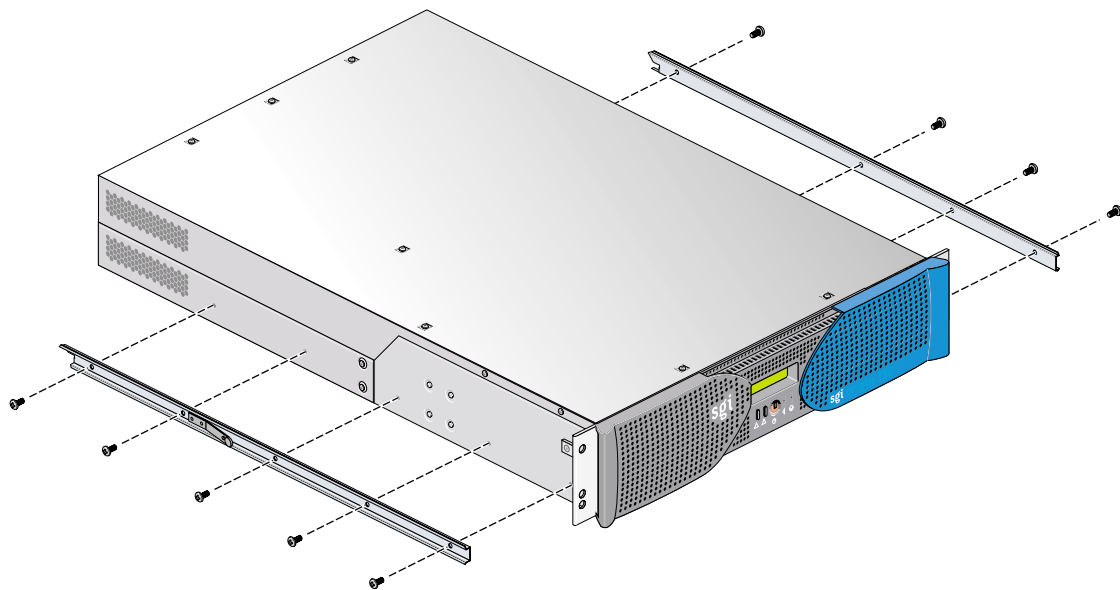

Figure 1-14 Attaching Chassis Rails to the Module Chassis
2. Using four 10-24 x 1/4-in. screws, attach one of the chassis rails to the right side of the module chassis. Ensure that the rail is installed in the correct direction (see Figure 1-14).